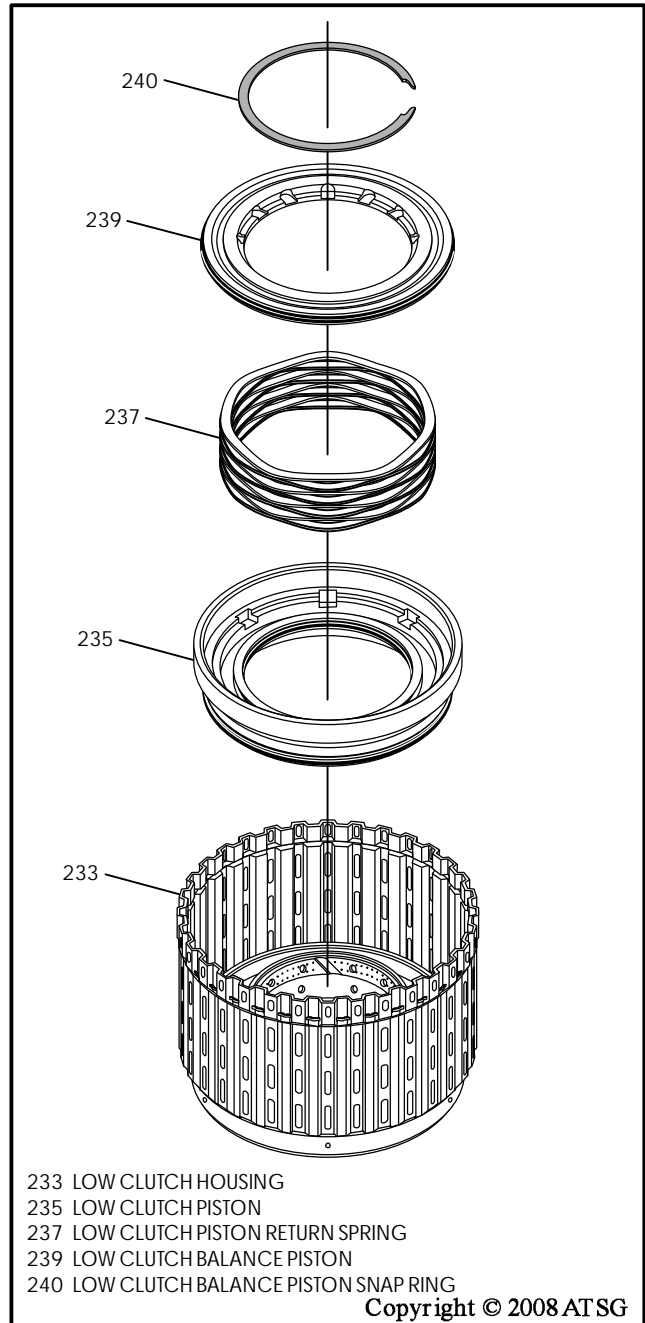

Figure 128
7. Install the low clutch piston and seal assembly into the low clutch housing (See Figure 128).
8. Install the low clutch piston return spring, as shown in Figure 128.
9. Install the low clutch balance piston inside of the low apply piston, as shown in Figure 128.
10. Compress the low clutch balance piston using the proper adapters and install the snap ring, as shown in Figure 128.